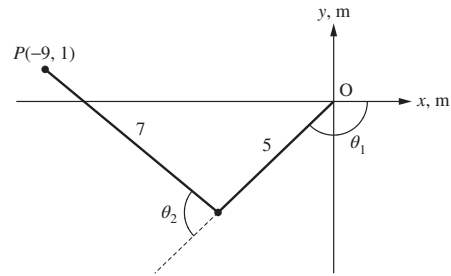

Figure P3.23 A two-link planar robot for problem P3-23.
- 3-23.** Consider a two-link planar robot, with positive orientations of θ_1 and θ_2 as shown in Fig. P3.23.
- (b) Suppose now that the same robot is located in the second quadrant and is oriented in the “elbow-down” position as shown in Fig. P3.23. If the tip of the robot is located at the point $P(x, y) = (-9, 1)$, determine the values of θ_1 and θ_2 .